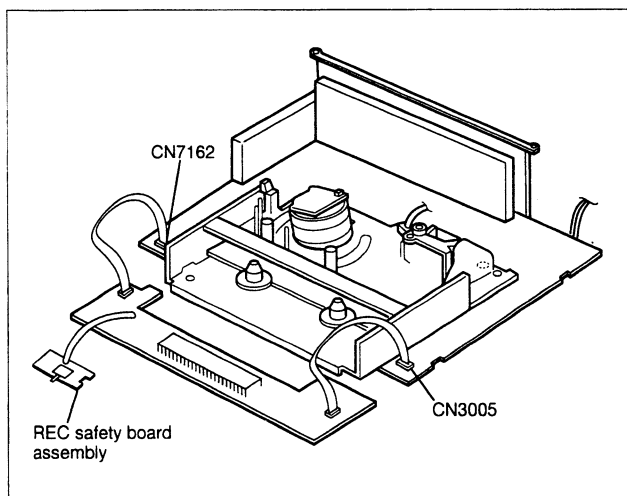

Fig. 1-4-3
- (7) Remove the Display board assembly and the REC safety board (See 1.3 DISASSEMBLY/ASSEMBLY METHOD), then place them on the front side of the Main deck assembly and the Main board assembly which have been disassembled by procedure (6), and insert the flat wires into CN7162 and CN3005 of the Main board (see Fig.1-4-3).
1.4.3 Cassette loading and ejection methods in the "SERVICE POSITION" (See Fig. 1-4-3).
- (1) Insert a cassette halfway in the Cassette holder assembly.
- (2) Set the switch on the REC safety board assembly to ON (by pressing the switch).
- (3) As soon as the cassette starts to be loaded, set the switch on the REC safety board assembly to OFF (by releasing the switch).
- (4) Now the desired operation (recording, playback, fast forward, rewind, etc.) is possible in this status (the status shown in Fig.1-4-3).
- When performing diagnostics of the tape playback or the recording condition in the "SERVICE POSITION", enter the desired mode before turning the set upside down, and do not change the mode when performing diagnostics while the set is placed upside down. If you want to switch the mode, turn the set to the normal position (the status shown in Fig.1-4-3).
- (5) The switch on the REC safety board assembly does not have to be operated when ejecting a tape. But be sure to turn the set to the normal position before ejecting the tape.
- (8) Plug the power cord into an AC outlet, and lift the cassette holder.